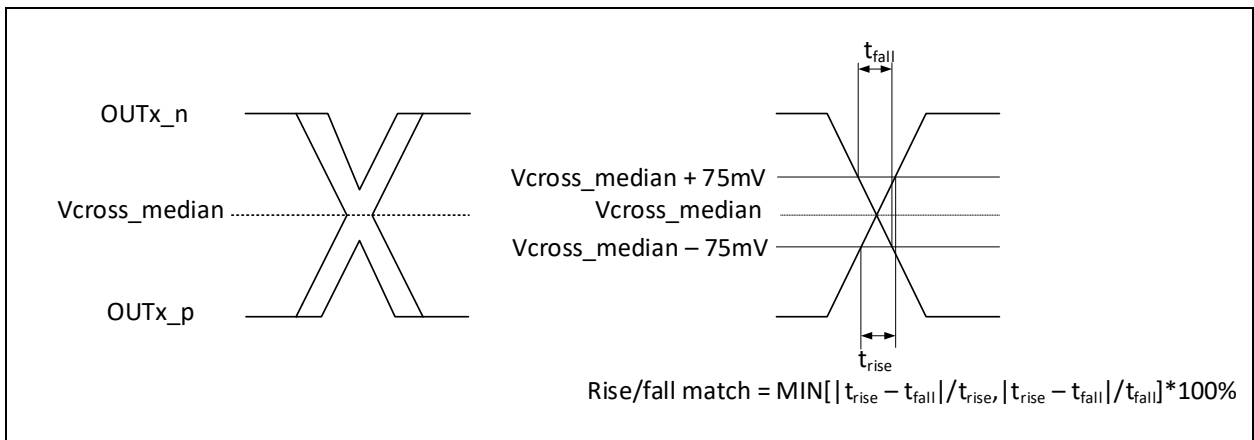

Figure 20. Single-Ended Measurement Points for Rise and Fall Time Matching
(12) Matching applies to rising edge rate for CK_x and falling edge rate for CK_{#x}. It is measured using a ±75 mV window centered on the median cross point where CK_x rising meets CK_{#x} falling. The median cross point is used to calculate the voltage thresholds the oscilloscope is to use for the edge rate calculations. The Rise Edge Rate of CK_x should be compared to the Fall Edge Rate of CK_{#x} the maximum allowed difference should not exceed 20% of the slowest edge rate. See Figure 20.